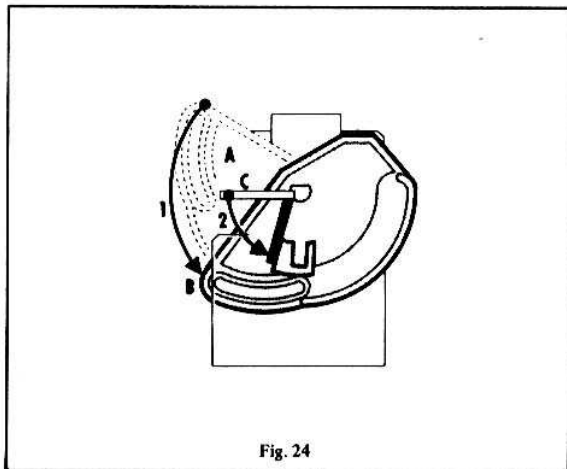

Fig. 24
1. Turn downwards the driving plastic disc "A" to stop "B" (Fig. 24).
2. Turn downwards the lever "C" of the gas cock as far as possible (Fig. 24).